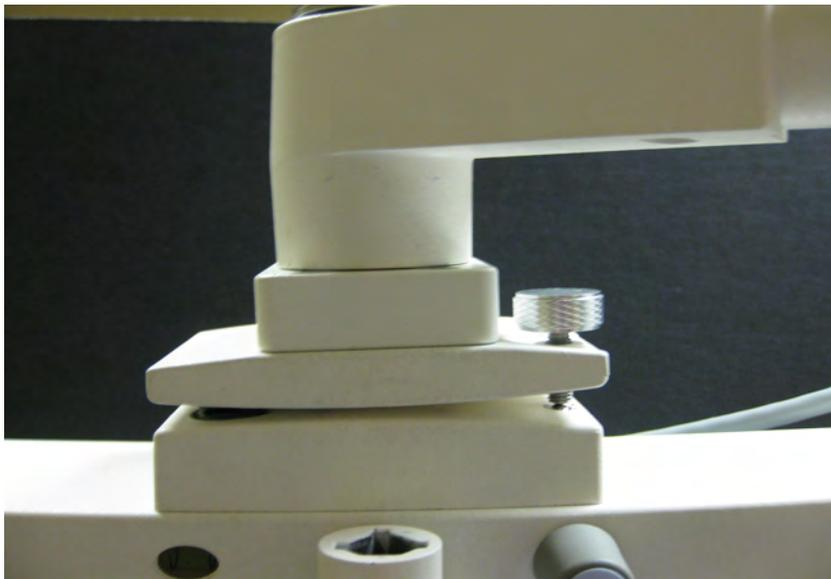

Figure IS-09, Thumb Screw
2. Turn the Thumb Screw slowly clockwise or counterclockwise to adjust the level of the Phoroceptor Head, using the illuminated Level on the front of the Phoroceptor head. (Please refer to Figure IS-09.)